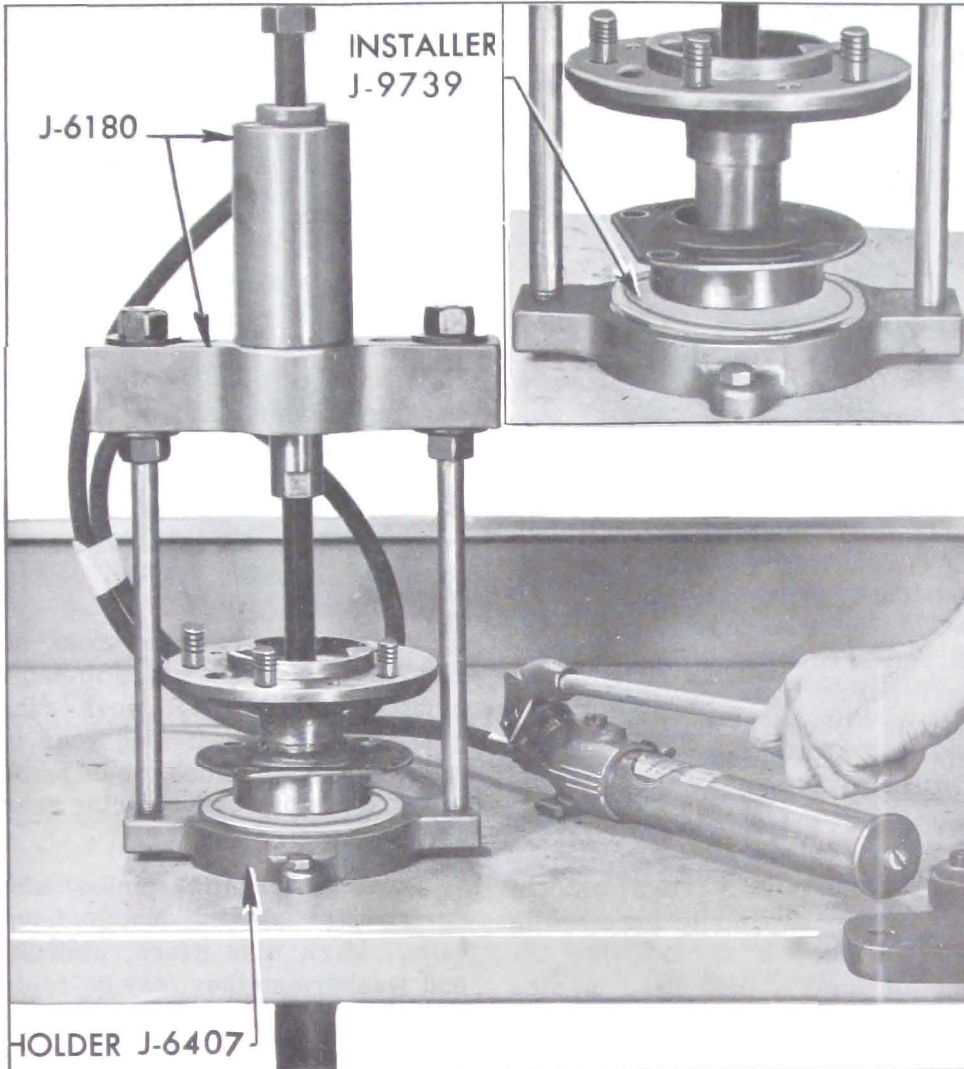

Fig. 6-51—Installing Rear Wheel Bearing or Retaining Ring
3. Install bearing retainer plate. Press new wheel bearing and retaining ring against shoulder on axle shaft using Installer J-9739 either in a press or in a set-up using Ram and Yoke Assembly J-6180 and Holder J-6407 shown in Figure 6-51. CAUTION: Bearing retainer plate must be on axle shaft before bearing is installed; retainer gasket can be installed after bearing.